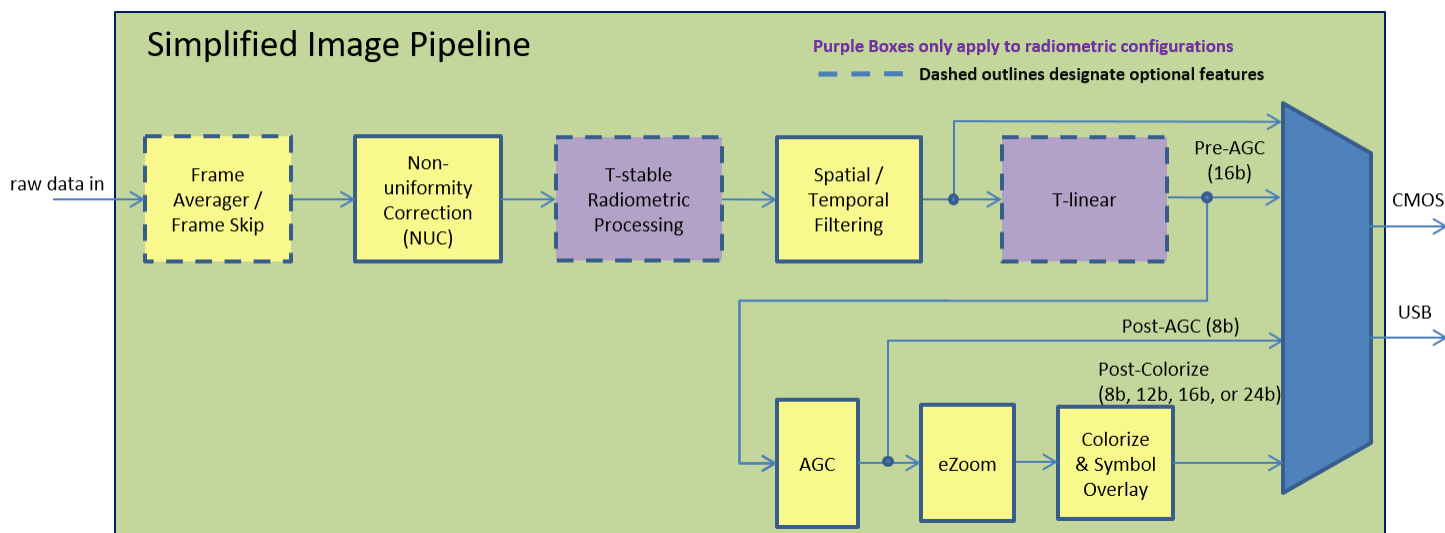

Figure 51: Boson Signal Pipeline
As described in Section 5 and shown again in Figure 51, there are multiple locations in the signal pipeline where video can be tapped for output on the CMOS channel. Boson provides the following CMOS video-tap modes:
- **Radiometry Enabled Pre-AGC (16-bit) (factory default with Radiometry enabled):** On Radiometry enabled cameras the T-stable or T-linear tap point is available. See Figure 51 below, as well as Section 7.7.